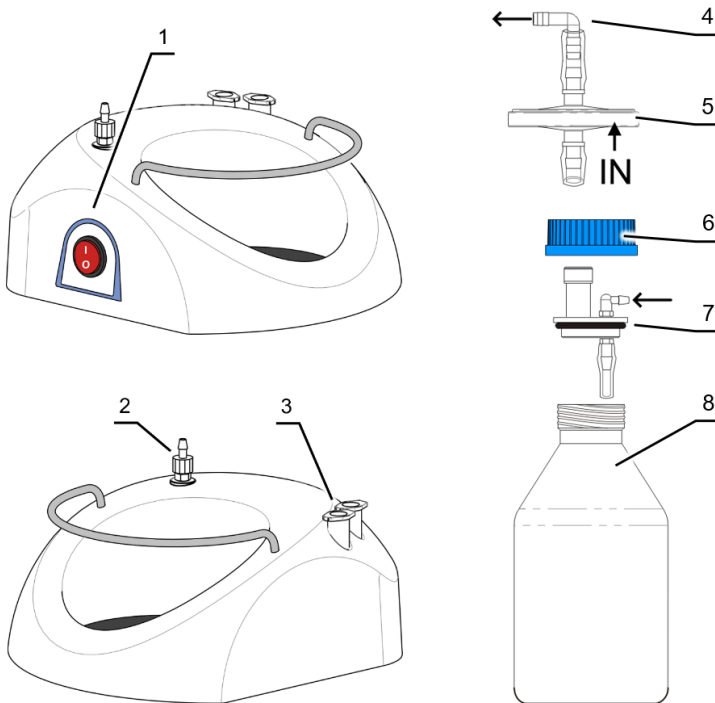

Figure 1. FTA-1, base and bottle.
Microtube placements on FTA-1 , see fig. 1/3
- Install the trapping flask (fig. 1/8) on the unit.
- Check that the insert (fig. 1/7) is in the lid (fig.1/6). Secure the lid onto the trapping flask. Insert the hydrophobic filter set (fig. 1/5) into the lid.
- Check the tube connections: filter to bottle (fig. 1/2 and 1/4), bottle to aspiration tip (fig. 1/7 and fig. 2).
- Place the microtubes for aspiration tip into the holder (fig. 1/3).
- 4.3.1 **Optional MA-8 aspiration tip installation.** Remove microtubes and aspiration tip from the holders on the base (fig. 1/3). Place MA-8 storing holder into the unit base. Replace the aspiration tip with the **MA-8** aspiration tip. Store the aspiration tip in the new holder.
- 5.2 Turn the **Power** switch (fig. 1/1 or 7/2) to the position **I** (on). The pump starts working.